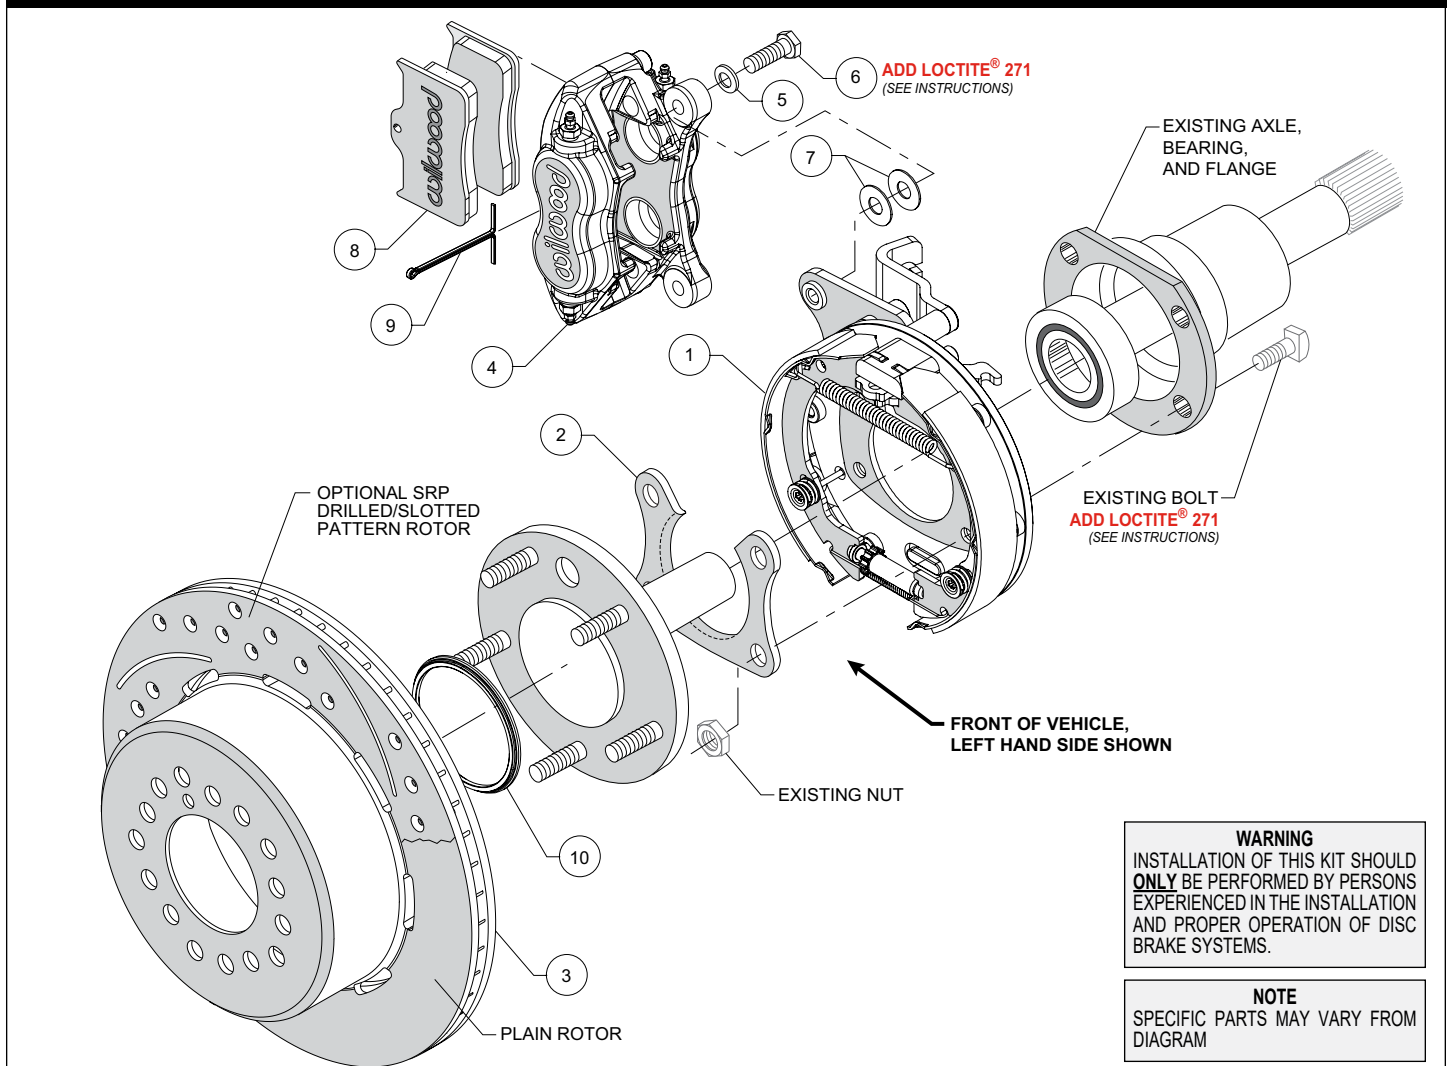
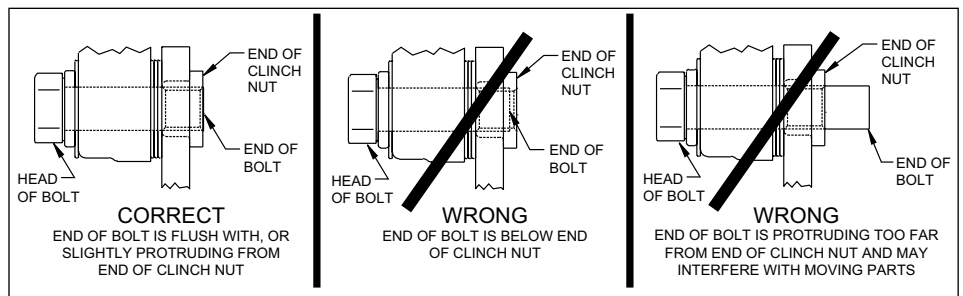

Figure 1. Typical Installation Configuration
Figure 5. Clinch Nut Engagement Diagram
**Assembly Instructions** (numbers in parenthesis refer to the parts list, and Figure 1 on the preceding pages): **CAUTION:** All mounting bolts must fully engage clinch nuts. Be sure to check that all bolts are either flush or protruding through flanged side of clinch nut after shimming, Figure 5.
• Orient the bracket assembly (1) as shown in Figure 1 and Photo 1 and slide it onto the axle. Insert the axle and bracket into the axle housing. Ensure that the bracket assembly backing plate fits flush against the axle housing flange.
• Install the bearing retainer (2) with the opening pointing upward and the lip facing inward (toward the bearing), as shown in Figures 1 and 4, and Photo 2. Secure retainer and bracket assembly to the axle housing flange using the Original Equipment Manufacturer (OEM) bolts and nuts, Figure 1. Apply red *Loctite*® 271 to the OEM bolt threads and torque to OEM specifications.
•Slide the rotor registration adapter (10) onto the axle register on the axle flange with the smaller O.D. facing toward the rotor/hat (3), Photo 3. Align the correct hole pattern in the rotor/hat with the stud pattern on the axle flange and slide into place, Figure 1 and Photo 4. **NOTE:** The rotor/hat must fit flush against the axle flange or excessive rotor run out may result. Install three lug nuts (finger tight) to keep the rotor/hat assembly in place while continuing with the installation. **NOTE:** Some OEM and after market axles come with stud sizes larger than 0.50" diameter. Verify stud size and have a qualified machine shop drill the bolt circle of the hat/rotor to the correct stud size, if necessary.
•**NOTE:** Please reference the caution statement at the beginning of the assembly instructions. Mount the caliper (4) onto the caliper mounting bracket (1) using bolts (6) and washers (5), as shown in Figure 1. Initially place two .035" thick shims (7) on each bolt between the caliper and the bracket, Photo 5. Temporarily tighten the mounting bolts and view the rotor (3) through the top opening of the caliper. The rotor should be centered in the caliper, Photo 6. If not, adjust by adding or subtracting shims between the bracket and the caliper. Always use the same amount of shims on each of the two mounting bolts. **NOTE:** The end of each bolt must be flush with or slightly protruding from the head of the clinch nut, as shown in Figure 5. If necessary place spare shims between washer (5) and caliper mounting ear to achieve the proper clinch nut engagement. Once the caliper alignment and clinch nut engagement are correct, remove the bolts one at a time, apply red Loctite® 271 to bolt threads, and torque to 40 ft-lb.